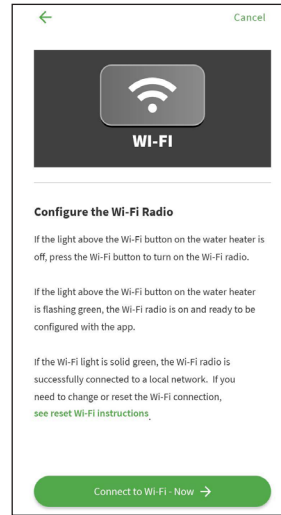

Figure 145 - Configure Wi-Fi Radio
- 1 Enable Wi-Fi connectivity on your device. Confirm the LED indicator is flashing green on the control assembly. If so, select the option to “Connect to Wi-Fi Now” at the bottom of the screen (Figure 145).